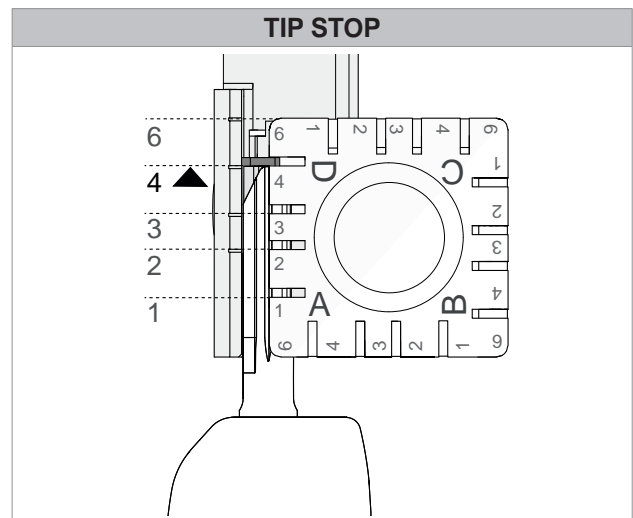
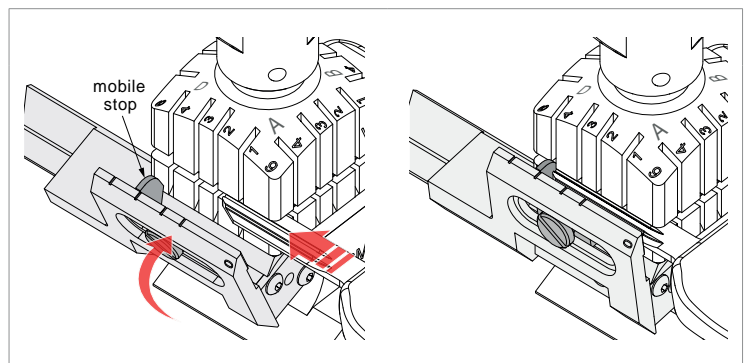

Fig. 57
Fig. 59 - mobile stop
- To fit keys with tip stops into the clamp, use the mobile stop on the gauge (Fig. 59) to be fitted into the special grooves (Fig. 57).